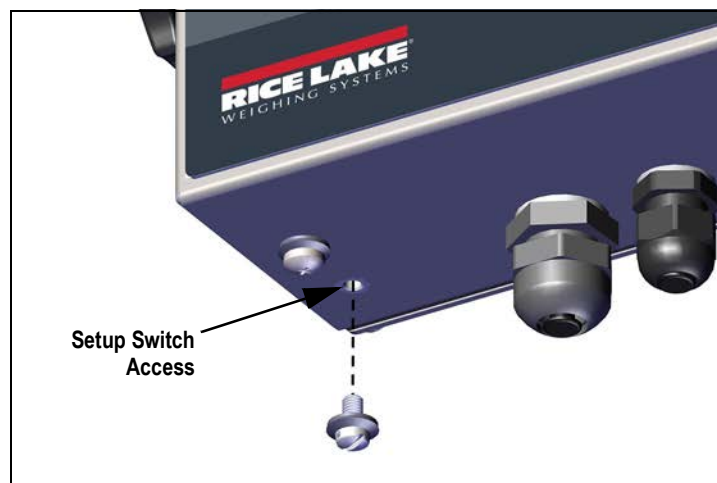

Figure 4-1. Setup Switch Access
1. Access setup mode by pressing the setup switch (Figure 4-1 on page 22).  $\overline{C}ONFiG$  displays.